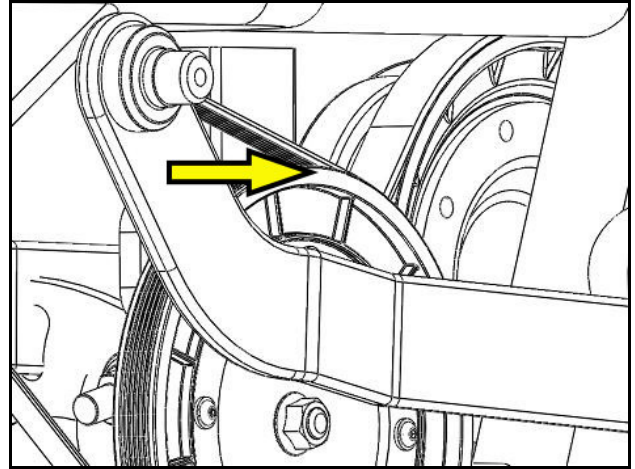

Fig. 10
10. Make sure to place the link arm to the back of the unit (Fig. 10).